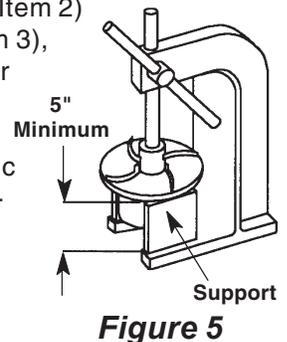

Figure 5
- Insert a 1½" diameter plastic or wooden shaft into the impeller eye and push the drive out of the body. See Figure 5.